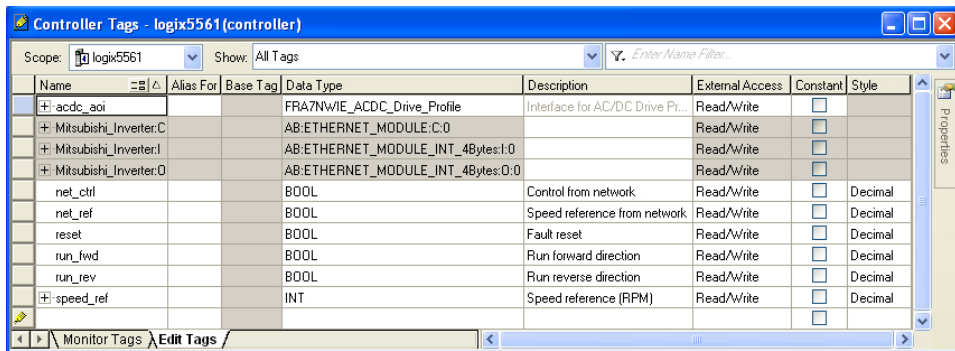

Figure 94: Create AC/DC Drive Profile AOI Tags
- 4) Create the tags in Figure 94.